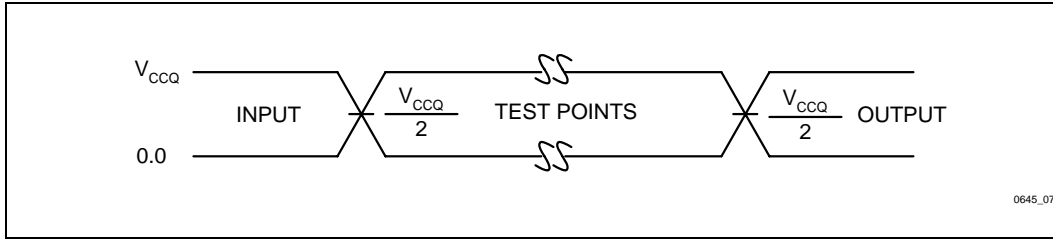

Figure 5. Input/Output Reference Waveform
4. See Figure 5: *Input/Output Reference Waveform* for timing measurements and maximum allowable input slew rate.
- See Figure 5: *Input/Output Reference Waveform* for timing measurements and maximum allowable input slew rate.